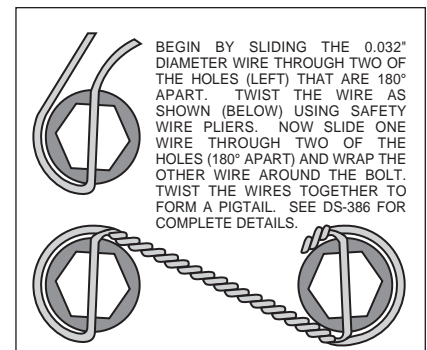

Figure 4. Safety Wire Diagram
- Slide the bracket kit assembly (1) onto the housing flange and then insert the axle assembly through the center hole of the bracket kit assembly (1). Secure using the stock Original Equipment Manufacturer (OEM) bolts and nuts. Stock OEM hex nuts that retain the bracket kit assembly (1) should be on the wheel side of the bracket. Apply red *Loctite*® 271 to the stock OEM bolt threads and torque to OEM specifications. Make sure the bracket kit assembly (1) brake pads are FACING OUTWARD TOWARDS THE WHEEL.
- With the larger I.D. side of the rotor (3) facing away from the hat (2), bolt rotor (3) to hat (2) through the backside of the rotor using washers (4) and bolts (5). Using an alternating sequence, apply red *Loctite*® 271 to the threads and torque bolts to 155 **in-lb**. For an added measure of security, the bolts may be safety wired using standard 0.032 inch diameter stainless steel safety wire as shown in Figure 4. Please refer to Wilwood's data sheet DS-386 (available at www.wilwood.com/Pdf/DataSheets/ds386.pdf) for complete safety wire installation instructions.
- Slide the rotor registration adapter (17) onto the axle register on the axle flange with the smaller O.D. facing toward the rotor/hat (2). Align the correct hole pattern in the hat with the stud pattern on the axle flange. **NOTE:** Some OEM and aftermarket axles come with stud sizes larger than 0.50" diameter. Verify stud size and have a qualified machine shop drill the hats to the correct size, if necessary. Slide the hat/rotor assembly (2 and 3) over the wheel studs covering the bracket kit assembly (1) and against the axle flange face. Check to be sure the hat seats squarely against the hub. Install a couple of lug nuts (finger tighten) to keep the rotor/hat assembly in place while continuing with the installation.